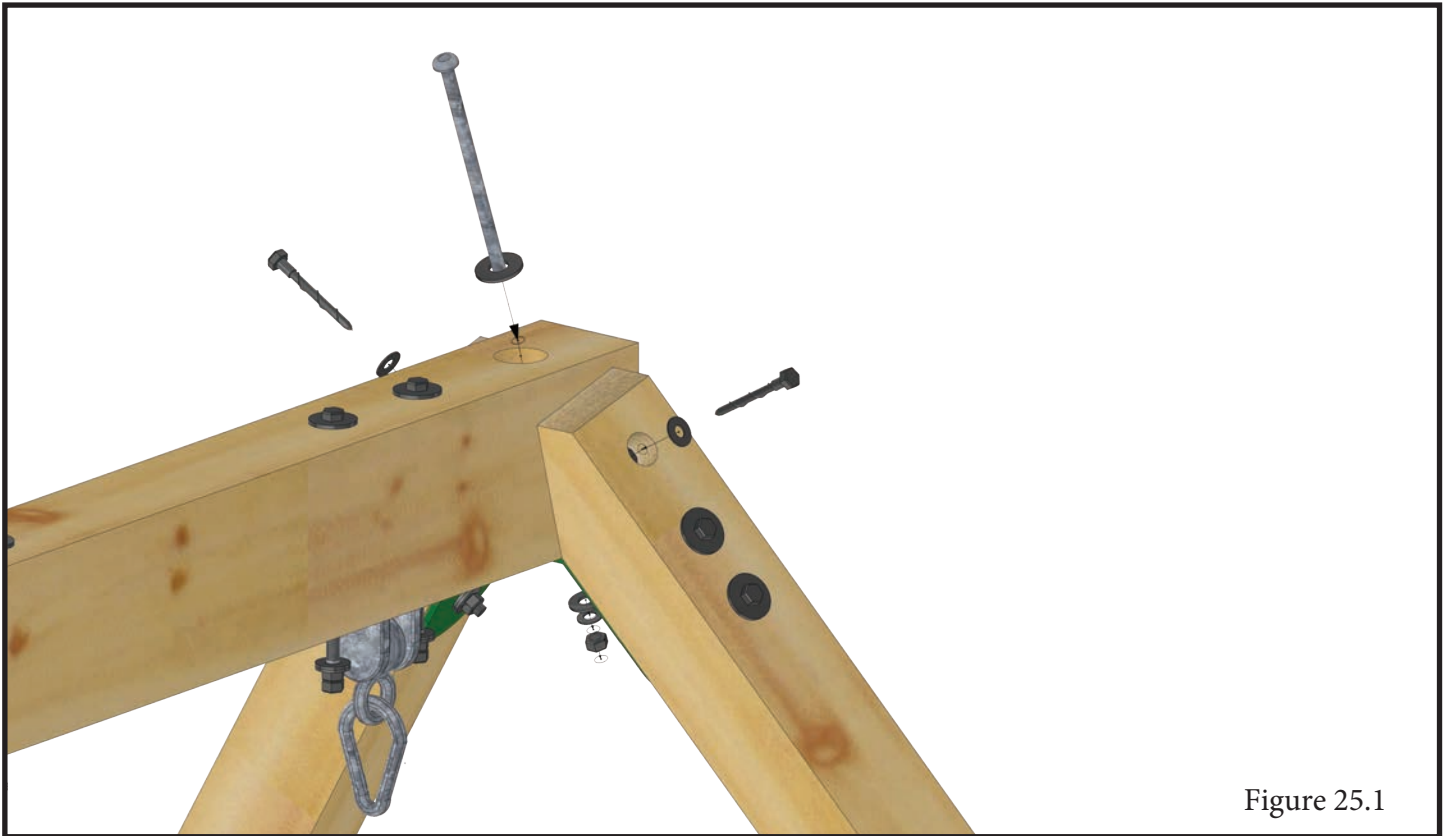

Figure 25.1
25.3 Fasten the top of the Swing Legs into the Swing Beam with 5/16" x 3" Lag Bolts with 5/16" washer as shown in Figure 25.1.